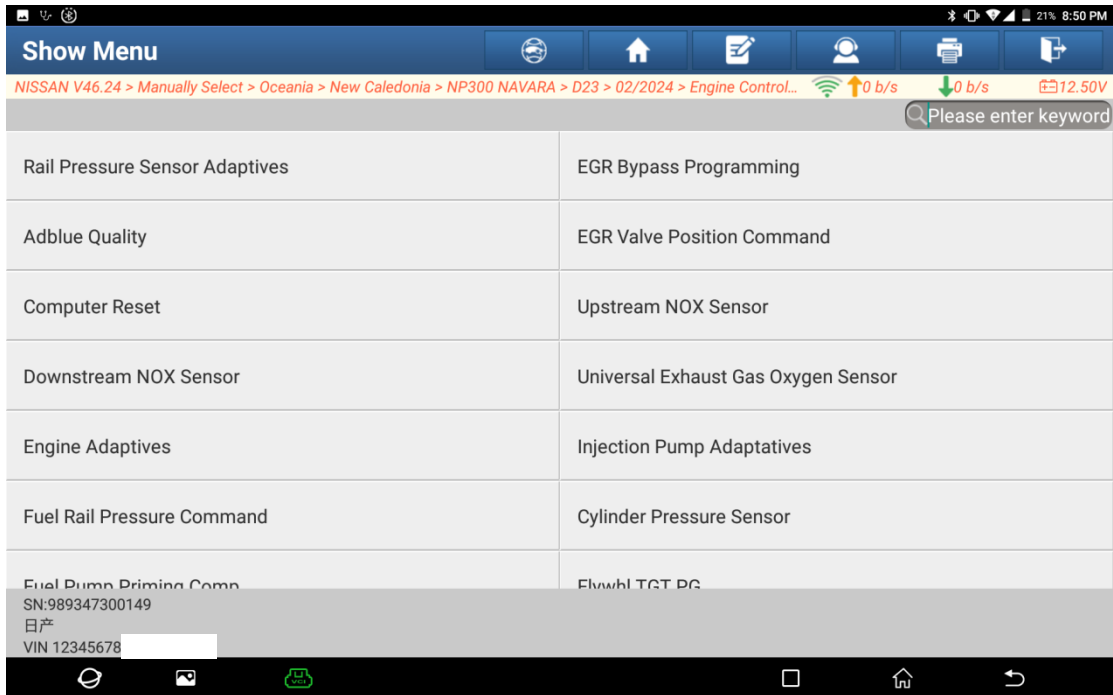

Figure 11
- Click [WORK SUPPORT] to enter the [WORK SUPPORT] menu interface (Figure 11).